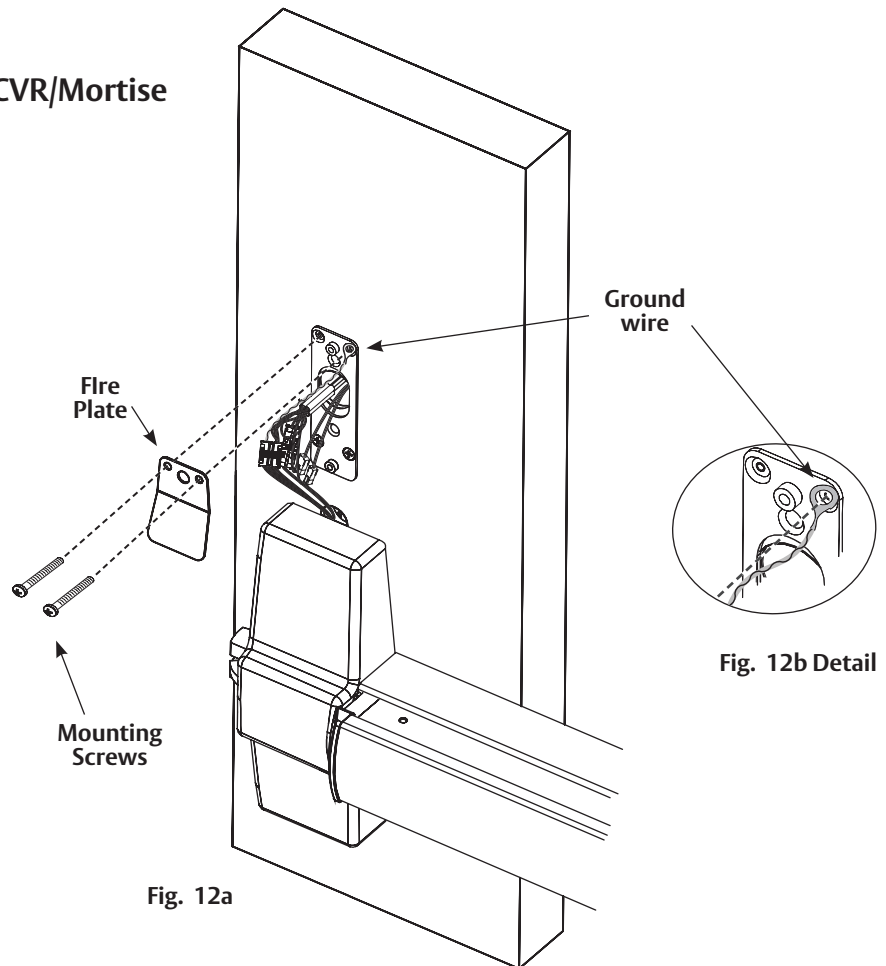

Fig. 12a
- NOTE: For fire-rated doors only.** Secure mounting plate and fire plate using (2) #8 1-1/4" Phillips pan head self-drilling screws provided (Fig. 12a). Ensure wires from reader are properly routed under flap of fire plate.
- Secure mounting plate using (2) remaining Phillips flat head self-drilling screws provided. Ensure wires from reader are properly routed under flap of fire plate.
- Place ground wire eyelet between upper right mounting plate hole and screw when securing mounting plate (and fire plate if used) to door (Fig. 12a, b).